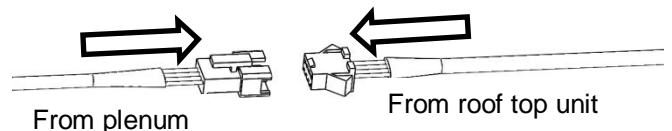

Figure 11 - Connect control cable
- Connect the control cable that leads from the plenum to the roof top unit. Ensure the plug mates with the socket and the catch is engaged. Figure 11